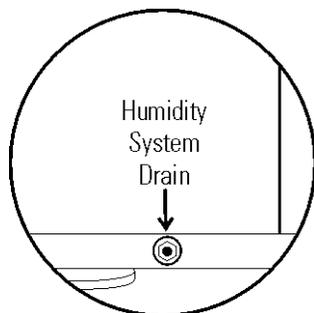

Figure 7-1. RH Drain
- Connect the other end of the fitting to the quick-connect drain located below the fold-down storage door. See Figure 7-1. Allow water to drain. This may take several minutes.